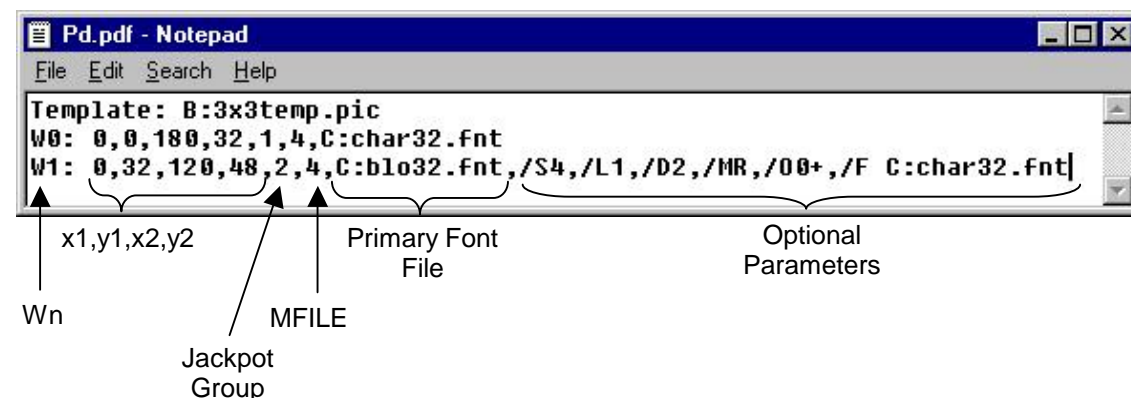

Figure 6.2 **Example of a .pdf file**
The progressive application (.pdf file) is an ASCII file that contains Template commands and all the details about the windows that make up the display, including the window locations and sizes, and the message files for each window. Figure 6.2 shows a .pdf file.
- **x1,y1,x2,y2** are the window coordinates (in pixels). The coordinates (x1, y1) are the top left corner of the window, while (x2,y2) are the coordinates for lower right corner. In Figure 6.2, W0 has the x1,y1 coordinates of (0,0) and the x2,y2 coordinates of (180,32).
- A machine can have up to eight jackpot groups. **Jackpot group** represents the particular jackpot group information that will display in that window. For example, in Figure 6.2, Jackpot Group 1 information will display in W0 and Jackpot Group 2 in W1. You can also use * or ? instead of the jackpot group number, which tells the SUPREME to use the jackpot group defined using the SUPREME logic board switches. Refer to Section 5 to set the jackpot group using the SUPREME switches.